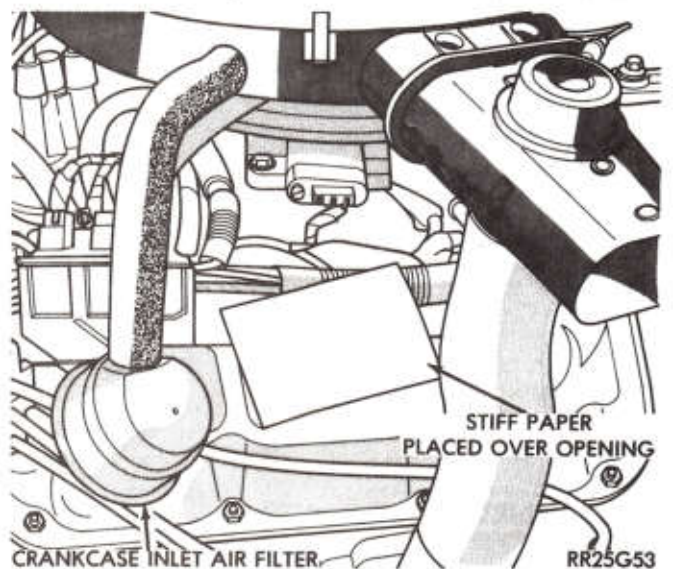

Fig. 15—Check Vacuum at Crankcase Inlet Air Filter Opening
(2) Reinstall the PCV valve then remove the crankcase inlet air cleaner. Hold a piece of stiff paper such as a parts tag loosely over the opening of the cylinder head cover. (Fig. 15).
(3) After allowing approximately one minute for crankcase pressure to reduce, the paper should be drawn against the opening in the cylinder head cover with noticeable force.
(4) Turn off engine and remove PCV valve from